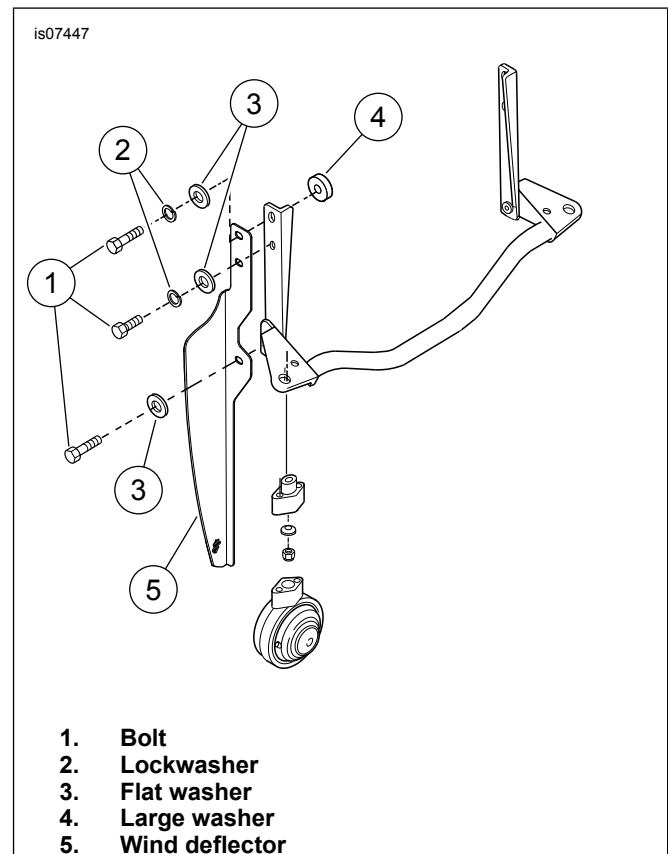
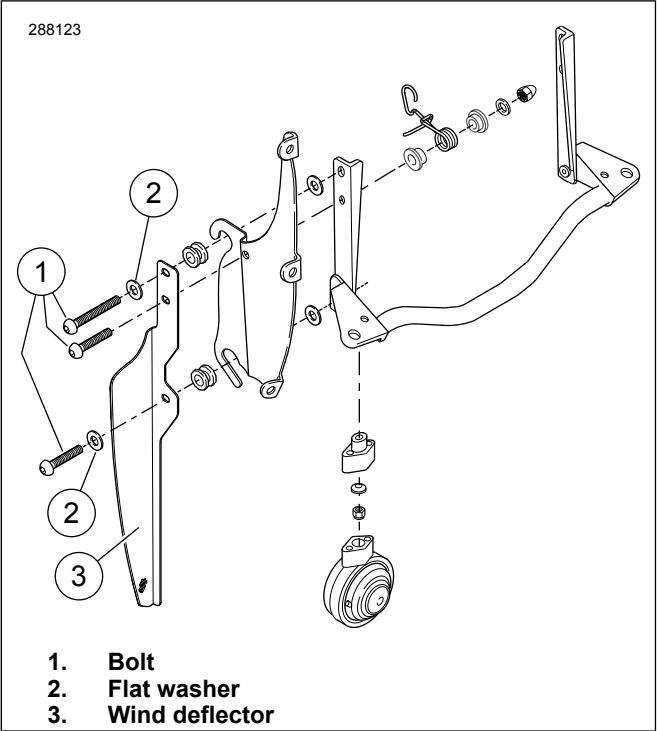

Figure 1. Assembly with Rigid Mount Windshield
Figure 2. Assembly with Detachable Windshield
1. With rigid mount windshield, see Figure 1.
- Remove the bolts (1), lockwashers (2), and flat washers (3) securing one side of the windshield support bracket/passing lamp bracket. Save all hardware for installation. Be sure the large spacer (4) between the auxiliary lamp bracket and the fork remains in place.
- Place the wind deflector (5) outboard of the passing lamp bracket. Install the hardware removed in Step 1a, but **do not** tighten the bolts now.
2. With detachable windshield, see Figure 2.
- Remove the bolts (1) and flat washers (2) securing one side of the windshield docking point/passing lamp bracket. Save all hardware for installation.